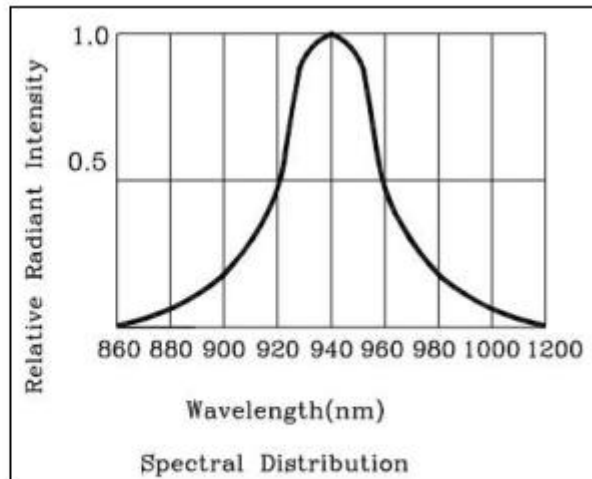

图 2 红外光 LED2 光谱图
- 2) Infrared LED2 spectral range (Figure 2): wavelength 940nm;
The tonometer should meet the requirements of Climate Environment Group II and Mechanical Environment Group II in GB/T 14710-2009 and the requirements of figure2 in the technical requirements.